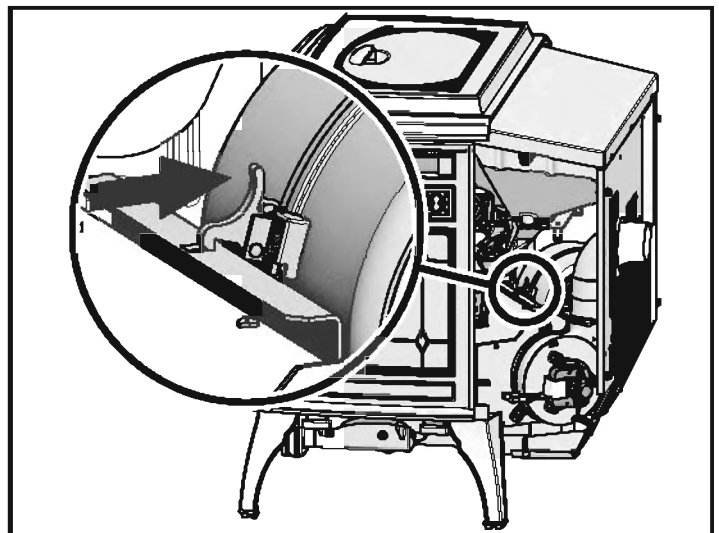

Figure 21.2
4. Reach behind the blower and release the latch by pushing the top of the latch towards the blower. **Figure 21.2**
8. When the blower is properly positioned the latch will engage the notch to hold the blower in place. **Figure 21.2**